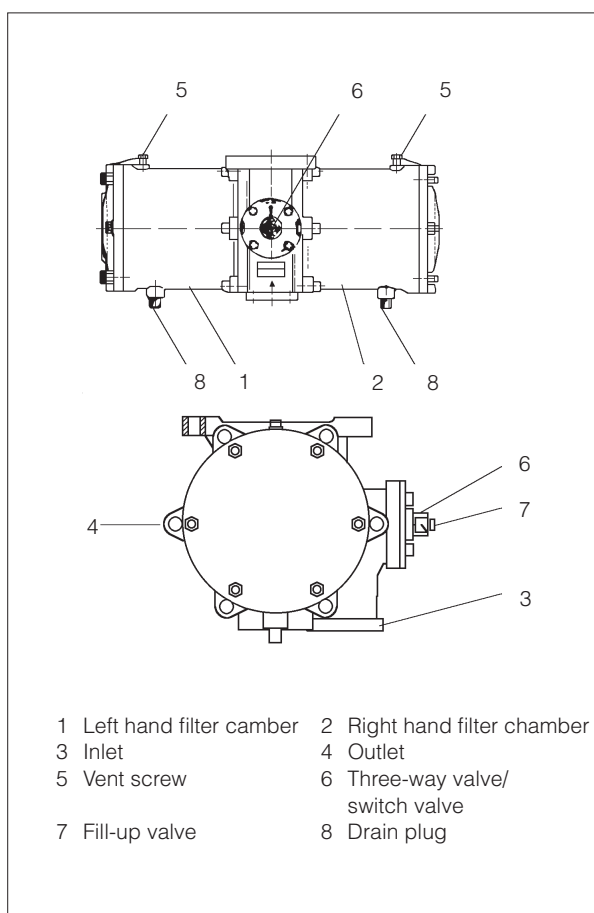

Fig. 2.
1) Turn the three-way valve, see fig. 2, into the position setting the stand-by filter chamber in operation and the filter chamber requiring service out of operation.
2) Open the vent screw (5) on the top of the filter to get the pressure out of the filter half.
3) Open the drain plug (8) under the filter housing and drain off oil.